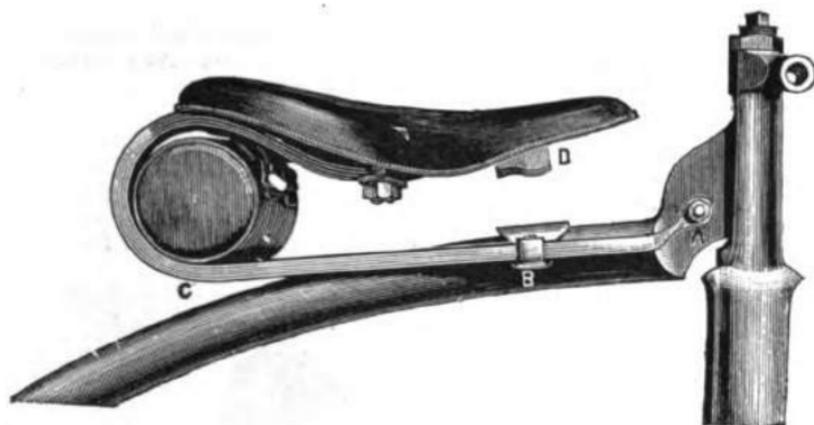

FIG. 34.—THE SPECIAL CAMBRIAN SPRING.
No. 51. The Special Cambrian Spring (Morris Brothers).—A departure is made from the ordinary lines in the construction of the spring, which, as is shown in Fig. 34, is made of spring steel—all in one piece—the size being $\frac{1}{2}$ in. by $\frac{1}{8}$ in. The ends are held in the customary manner by a bolt passing through the neck; the bars then run backward, rather low down, and pass through the bosses (B), which are held by a small plate resting on the backbone. By altering the position of this the spring can be made more elastic by sliding it towards the head, or more rigid if moved rearward. At the back (C) the two bars curl up, then bend forwards, downwards, and slightly upwards; the loop